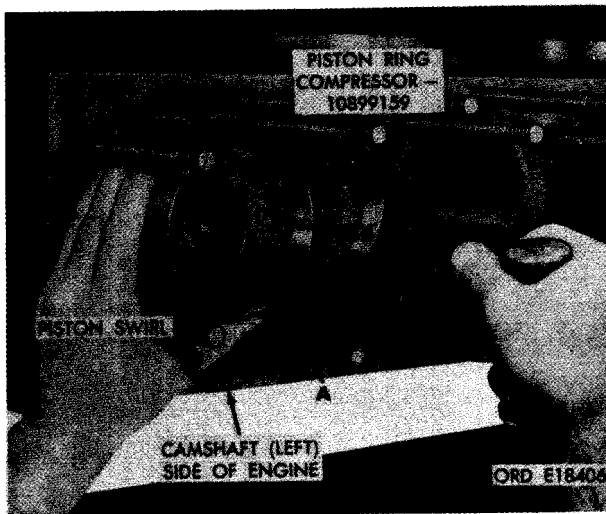

FIGURE 480. INSTALLING PISTON AND CONNECTING ROD ASSEMBLY USING PISTON RING COMPRESSOR - 10899159.
- (2) Figure 480. (A) Position piston ring compressor- 10899159 over cylinder liner with small inside diameter end toward liner. (B) Install connecting rod through compressor. Guide piston skirt through compressor and gently tap the piston with a wooden hammer handle (or other suitable tool) until top piston ring enters cylinder liner. Remove piston ring compressor -10899159. With the aid of an assistant to guide connecting rod, continue to tap piston until bearing seats on crankshaft journal.
- (1) Install remaining piston and connecting rod assemblies in the same manner following instructions for figure 480. Rotate crankshaft so that connecting rod journal for respective piston and